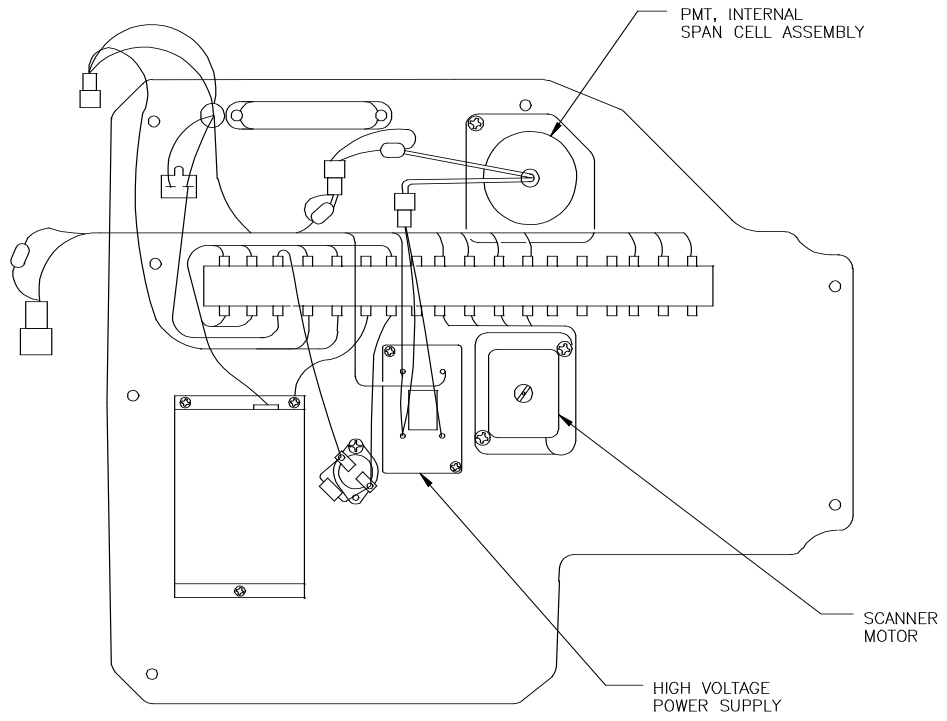
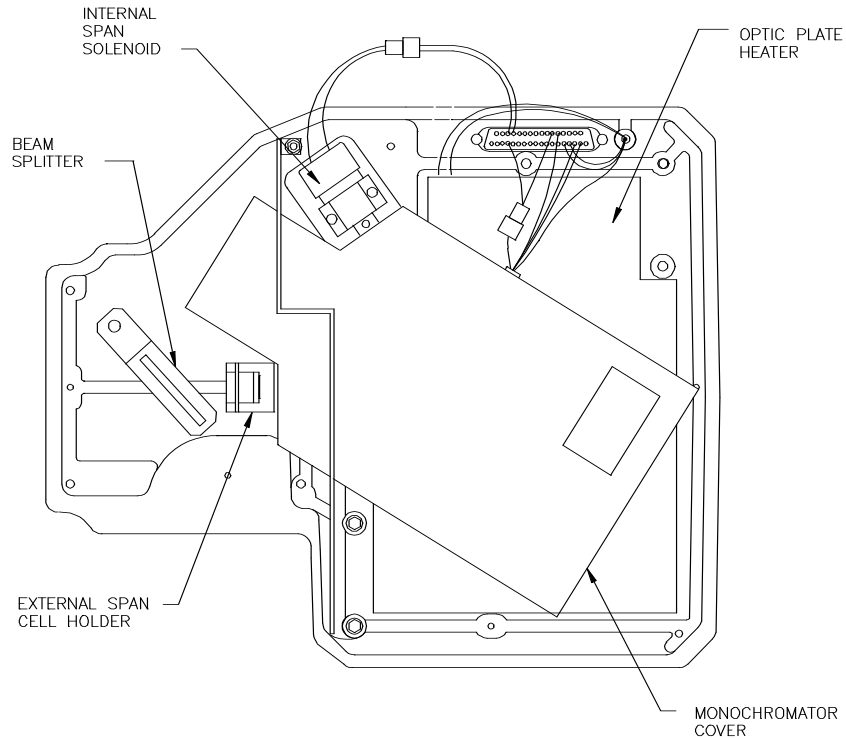

Figure 6-1. Optic Plate Assembly, Bottom View
Figure 6-2. Optic Plate Assembly, Top View
7. Carefully remove the PMT assembly by pulling outward (see Figure 6-1 and Figure 6-2).
4. Remove the two smaller screws on the PMT assembly (see Figure 6-1 and Figure 6-2).